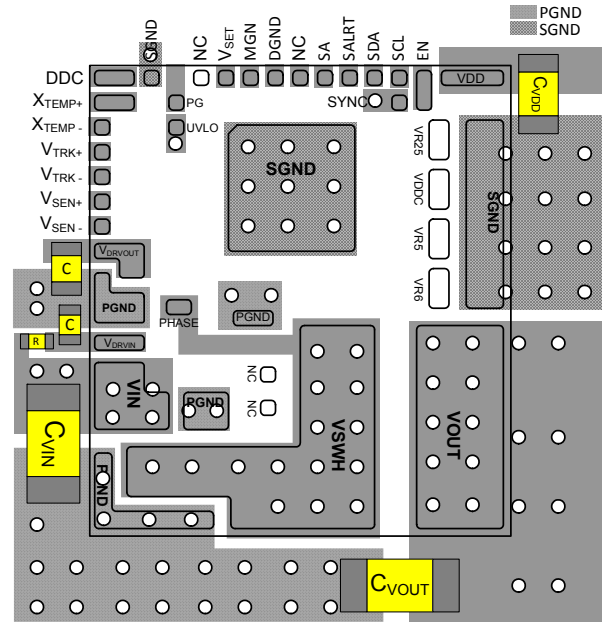

FIGURE 30. RECOMMENDED LAYOUT - TOP PCB LAYER
- For  $V_{DD} > 6V$ , the recommended PCB layout is shown in Figure 30. Leave V25, VDDC, VR5, and VR6 as no connect.